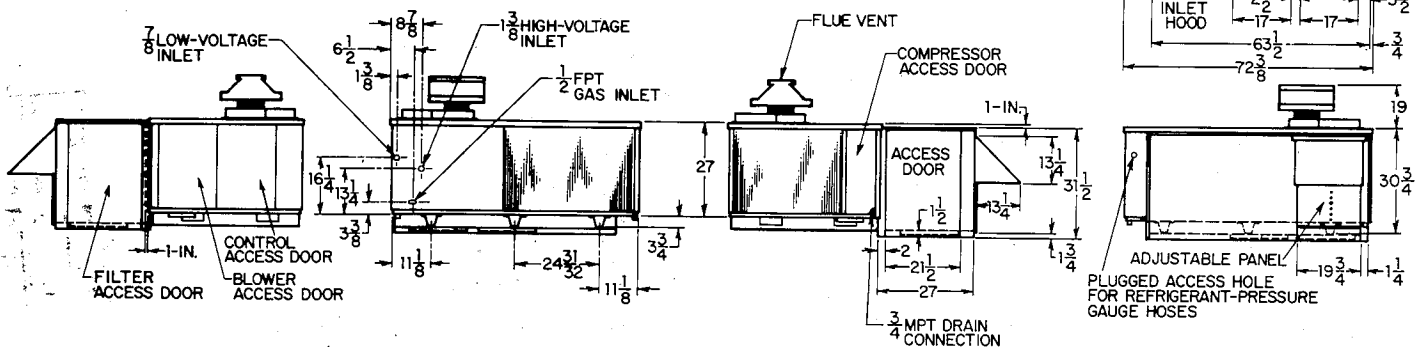

Figure 3—579J060125 Dimensional Drawing
1. Remove filter access door from plenum section. See Figure 3.
3. Remove screw and slide adjustable panel on plenum (See Figure 3.) downward to provide desired amount of outside air for ventilation, when required.